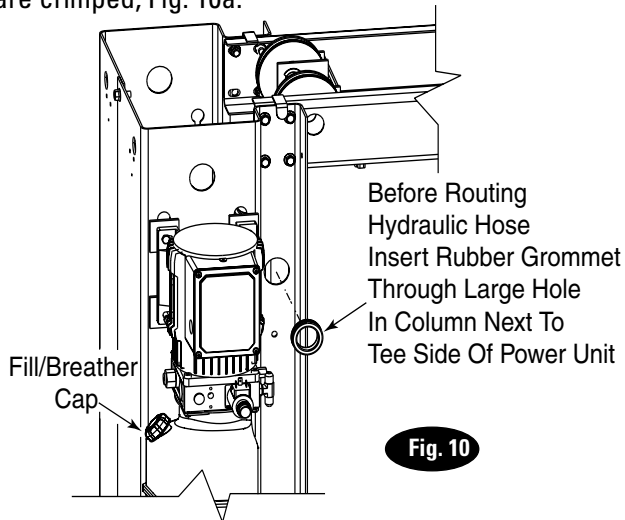
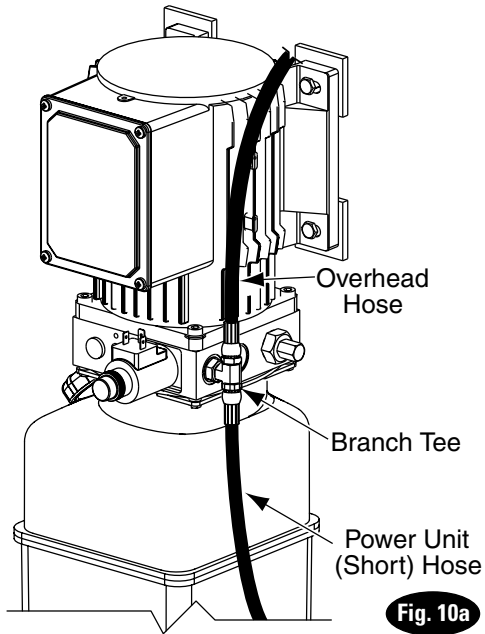

Fig. 10
Fig. 10a
**9. E Series Hoses:** Before routing hoses insert rubber grommet in column, Fig. 10. Clean adapters and hose. Inspect all threads for damage and hose ends to be sure they are crimped, Fig. 10a.
**Oil Filling:** Use Dexron III ATF, or Hydraulic Fluid that meets ISO 32 specifications. Remove fill-breather cap, Fig. 10. Add fluid until it reaches fill line on tank. System capacity is (14) quarts. Replace fill-breather cap.
- Push cable up until stud is above top of carriage Fig. 10.